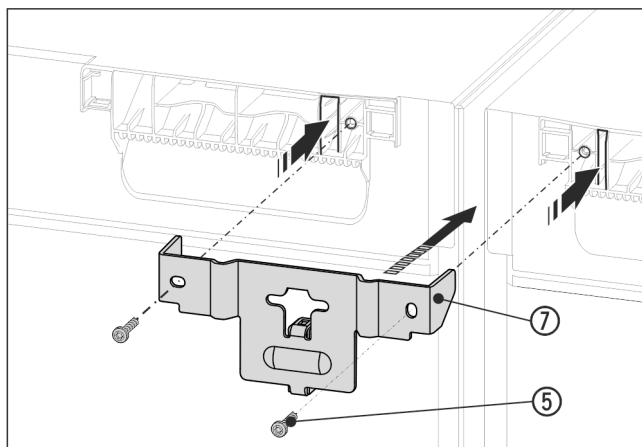

Fig. 14 Example illustration
- Slide the bracket Fig. 14 (7) with the spacer between the appliances and onto the appliance ceiling with the lugs. Tighten with 2 screws Fig. 14 (5).